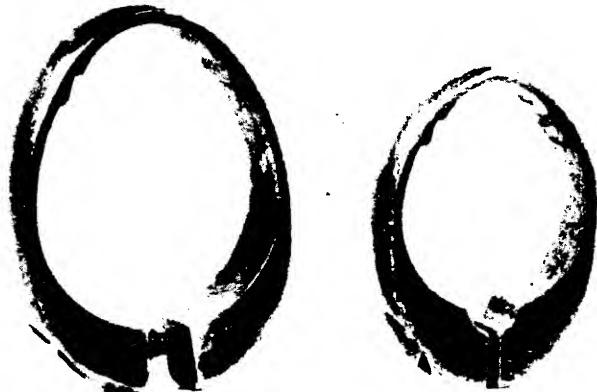

FIGURE 10. STOCK BANDS FOR RIFLE M1891.
d. The two stock bands (fig. 10) are screw expanded (turn to the right to expand and to the left to close). The upper band is at the forward end of the handguard (fig. 11). The lower band is 2 inches forward of the rear sight.